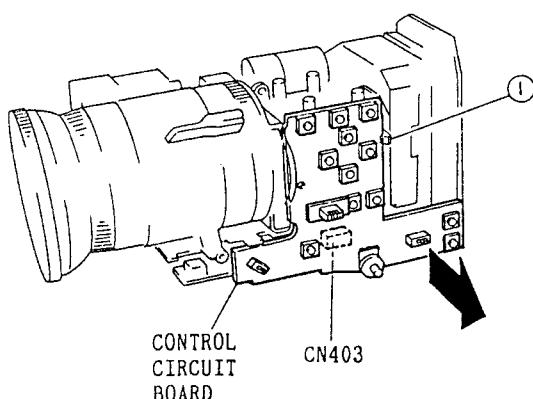

Fig. 2-22
- Release one (1) tab, and while disconnecting connector CN403 from the titler circuit board, remove the control circuit board in the direction of the arrow. (See Fig. 2-22)
1. Remove the control circuit board. (See Figs. 2-22, 2-23)